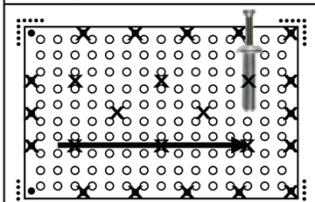

Fig. 4
6. Insert drive pins in all remaining holes and hammer them in moving across the tile in one direction. (Fig. 4) **NOTE: Only drive the pin so that it is even with the head of the anchor.**